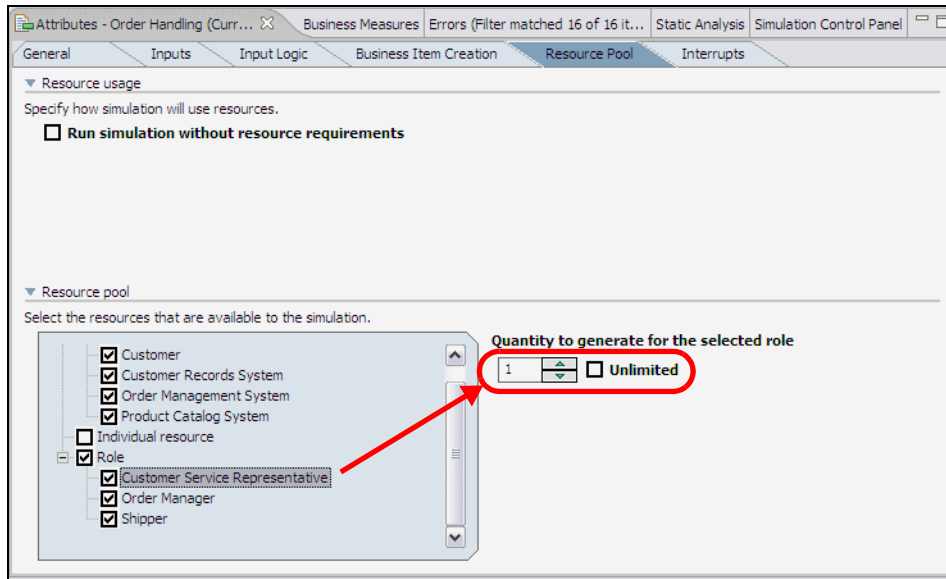

Figure 6-19 Simulation profile: Resource pool
- Finally, populate the number of human resources available in the *Resource pool* tab (Figure 6-19):